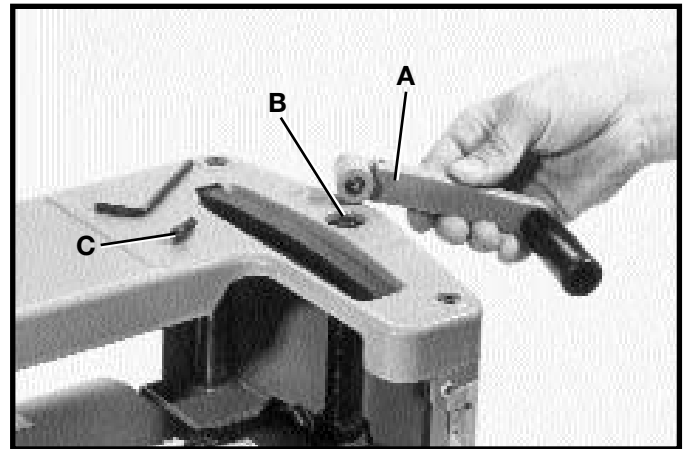

Fig. 4
1. Assemble raising and lowering handle (A) Fig. 4, to shaft (B) and fasten in place with screw (C). **NOTE:** Make certain the flats of the handle and flat on shaft are aligned with each other.